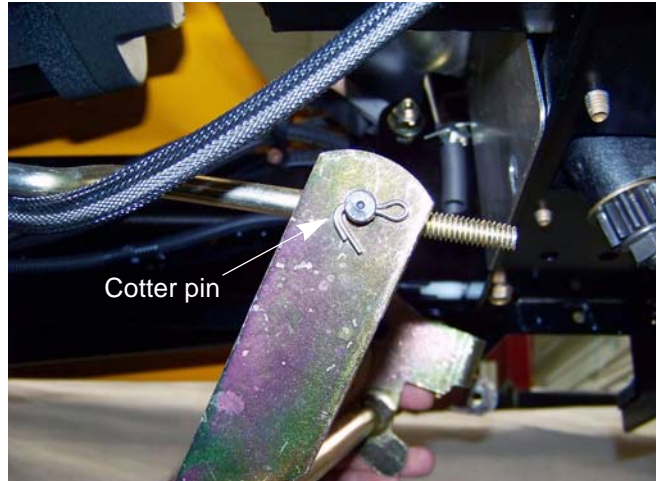

Figure 3.13
10. Remove and discard the cotter pin. See Figure 3.13.